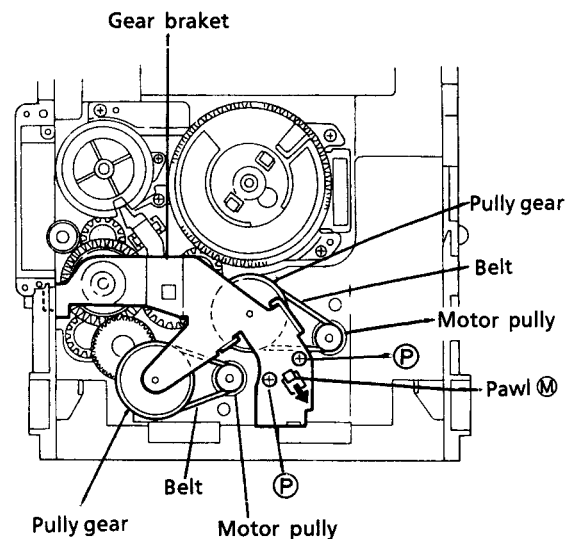

Fig. 37
(See Fig. 37.)
2. Press the pawl **(M)** securing the gear bracket to the arrow in the figure to remove the gear bracket. (See Fig. 37.)
4. Remove each belts from the both actuator motor pulleys and the pulley gears. (See Fig. 37.)